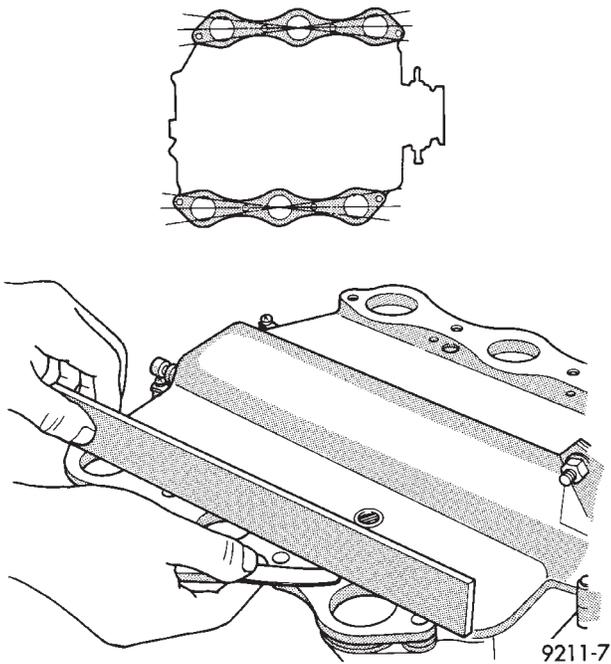

Fig. 14 Check Intake Plenum Mounting Surfaces
- Check for distortion of the cylinder head mounting surface using a straightedge and thickness gauge (Fig. 14). Refer to (Fig. 15) for Specifications.